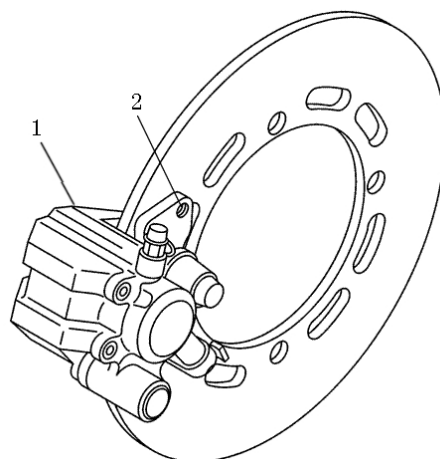

Figure 4-2-3
Disk brake plate must be replaced depending on its wear condition. Figure 4-2-3
3. Detach the Plate Clip nut and remove the Plate Clip (Figure 4-2-3).
4. Remove the Front brake plate system (Figure 4-2-3)